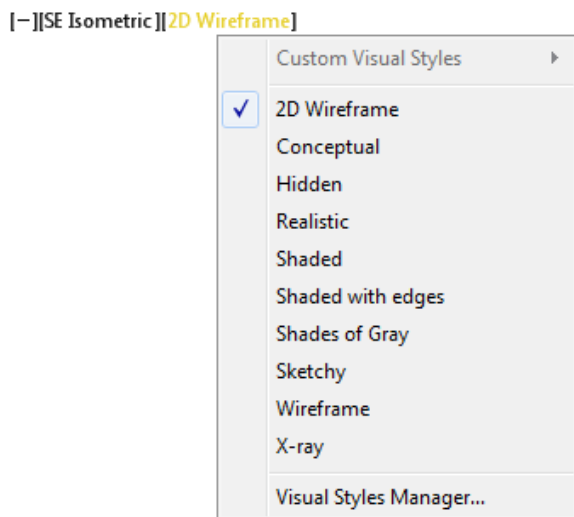

Figure Step 8A
Step 8 Click the Visual Style menu and in the pull down list, set the current visual style to 2D Wireframe. (Figure Step 8A and 8B)